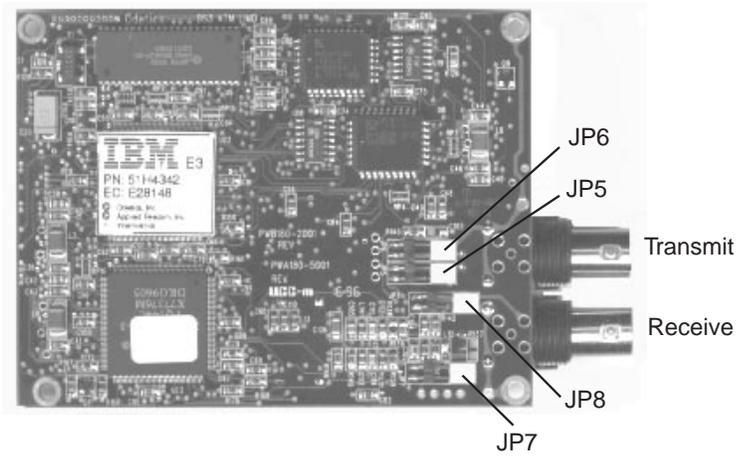

Figure 16. Port and Jumper Locations on the E3 and DS3 I/O Cards
- **1** (E3 and DS3 I/O cards only) Ensure that the configuration of the grounding jumpers on the I/O card conforms to the type of port connection and to the specific grounding regulations in your country by following the instructions in Figure 16 on page 50.
Figure 16 shows the location of the ports, configuration jumpers and grounding jumpers on the E3 and DS3 I/O cards.
To adhere to country specific regulations regarding the grounding of outer conductors on coaxial pairs (both receive and transmit ports), four jumpers are provided on the rear of the I/O cards. If the jumpers are not used, the outer connector is grounded through a 10 nF capacitor. Figure 16 on page 50 shows the location of the four jumpers.